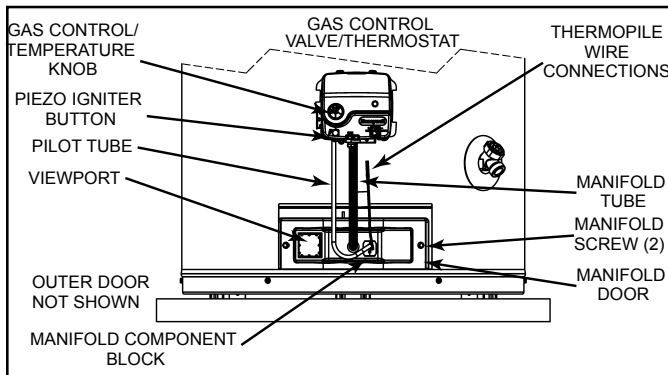

Figure 34
7. Remove the screws (1/4" nut driver) securing the manifold/burner assembly to the combustion chamber (Figure 34).